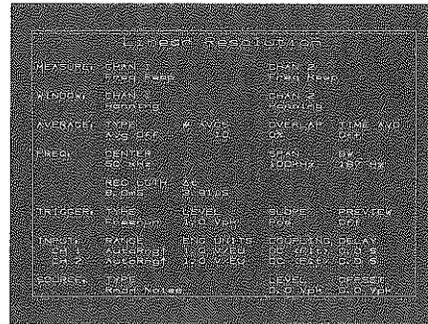

Figure 7-1
- 1. Special Preset** Press the green **PRESET** key. In the pre-set menu, select the softkey labelled **TIME THRUPT**. A dc-to-100 kHz Linear Resolution frequency response measurement will be set up as shown in Figure 7-1.